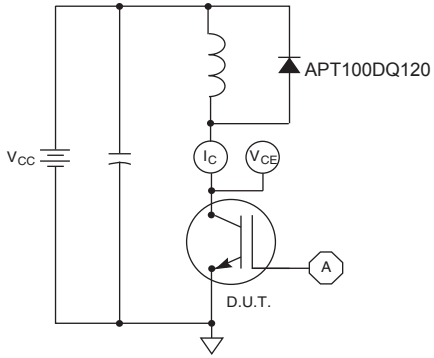

Figure 21, Inductive Switching Test Circuit
- ① Repetitive Rating: Pulse width limited by maximum junction temperature.
- ② For Combi devices, I_{ces} includes both IGBT and FRED leakages.
- ③ See MIL-STD-750 Method 3471.
- ④ E_{on1} is the clamped inductive turn-on energy of the IGBT only, without the effect of a commutating diode reverse recovery current adding to z a the IGBT turn-on loss. Tested in inductive switching test circuit shown in figure 21, but with a Silicon Carbide diode.
- ⑤ E_{on2} is the clamped inductive turn-on energy that includes a commutating diode reverse recovery current in the IGBT turn-on switching loss. (See Figures 21, 22.)
- ⑥ E_{off} is the clamped inductive turn-off energy measured in accordance with JEDEC standard JESD24-1. (See Figures 21, 23.)
- ⑦ R_G is external gate resistance not including gate driver impedance.